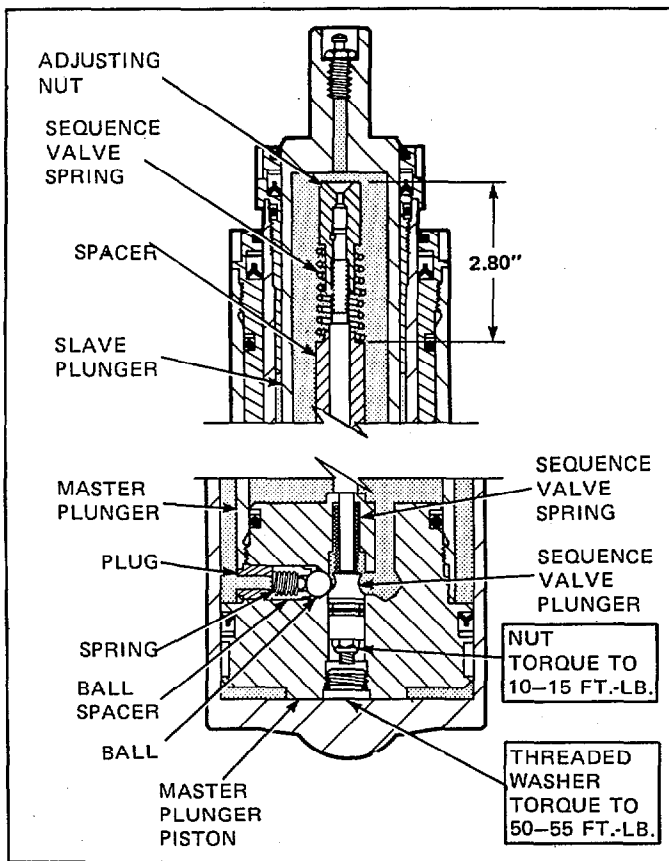

Figure 14. Sequence Valve Rod Assembly
14. Install the sequence valve rod spring, spacer and adjusting nut on the rod, if they were disassembled. Tighten the nut until a measurement of 2.80" is attained from the bottom of the spring to the top of the nut. See Figure 14. Install a new cotter pin and bend the pin ends around the nut. Slide the assembly into the slave plunger.
20. Place the sequence rod assembly in the primary plunger with the threaded end through the master plunger piston. Install the sequence valve spring, plunger and nut onto the rod through the bottom of the master plunger piston. Tighten the nut to a torque of 7.5-9 ft.-lbs. See Figure 14. Install the threaded washer and tighten to a torque of 50-55 ft.-lbs. **STAKE THE WASHER IN PLACE:**